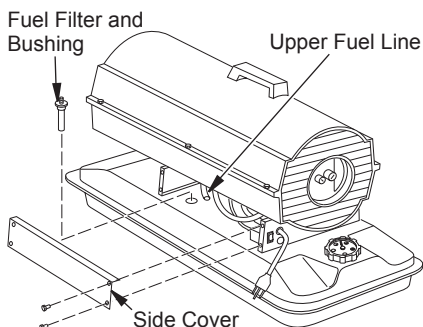

Figure 18 - Fuel Filter Removal, 40/50/55/60/70 Models
3. Pull upper fuel line off fuel filter neck (see Figure 18 or 19).